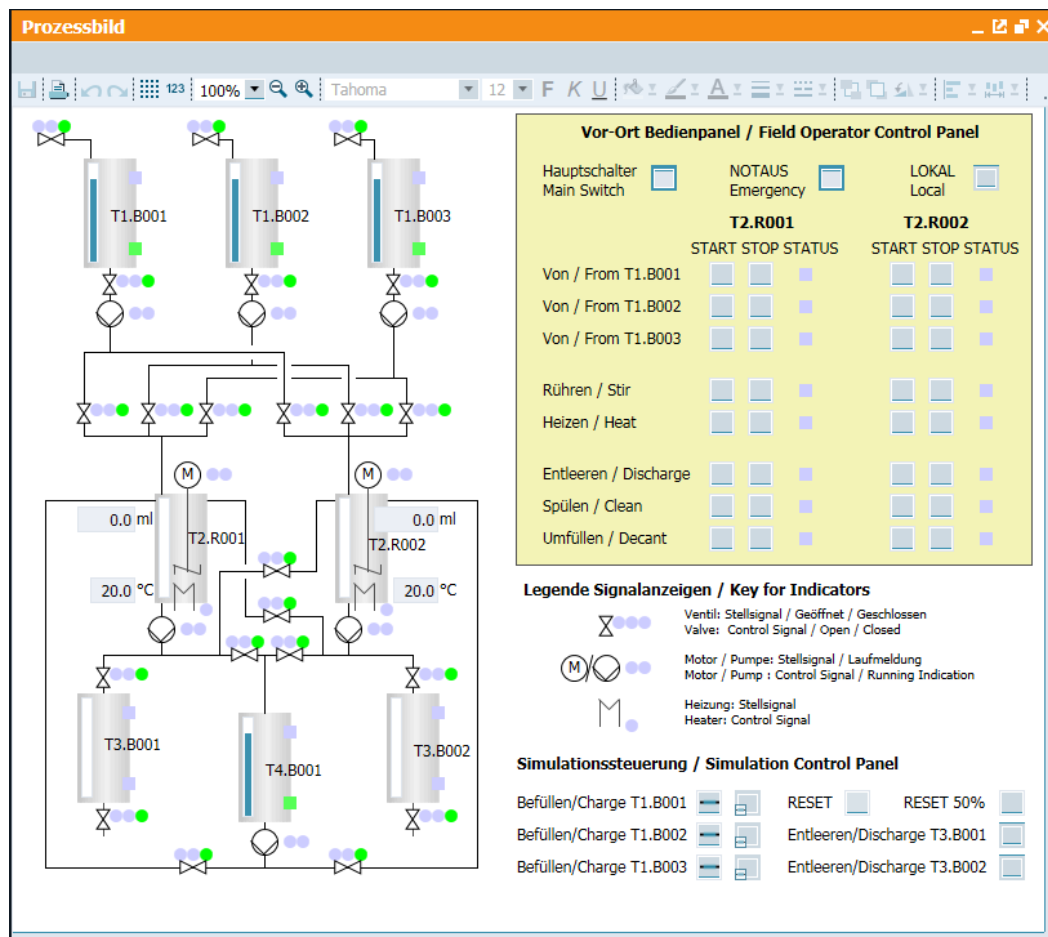

Figure 5: Operator interface of the process simulation
The operator interface of the simulator is shown in Figure 5. It shows the process scheme as well as the signal levels of controlled and measured variables on the left side. The ochre-shaded local operator panel is shown at the top right. Below that a series of control elements is provided for the simulation.
- As shown in Figure 5, the simulation starts with educt tanks filled 75%. Everything else is empty. This state can be restored in the simulation control at any time with the 'RESET' option. Die 'RESET 50%' option fills all tanks 50%.